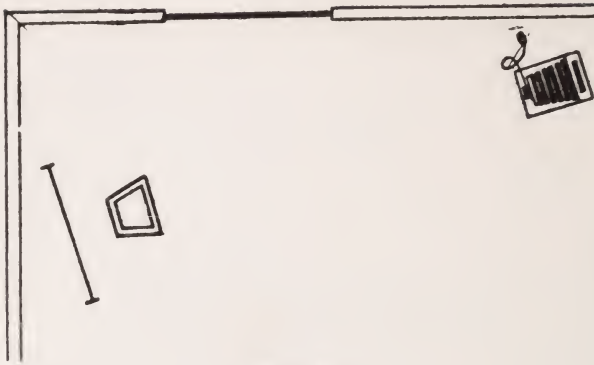

Fig. 10
**Portraiture in a Small Room.**— In Figs. 10, 11, and 12 are given plans of small rooms such as one often finds, with the window so near one of the end walls that